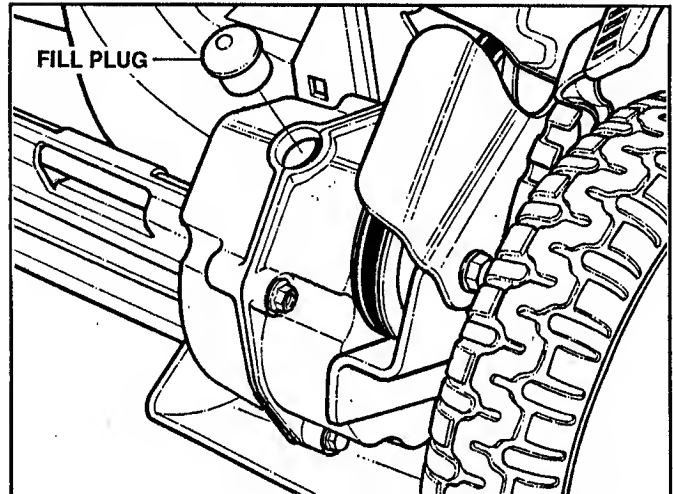

FIGURE 3.2
1. Remove transmission fill plug. See Figure 3.2.